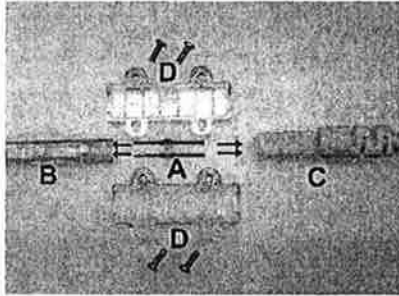

FIG. 1
FIG. 1 - Insert pointed end of connector pins (A) into led flat rope light (B) wire holes. *TIP: warming the end of the led flat rope light slightly with a hair dryer will make it more pliable and easier to insert pins.*